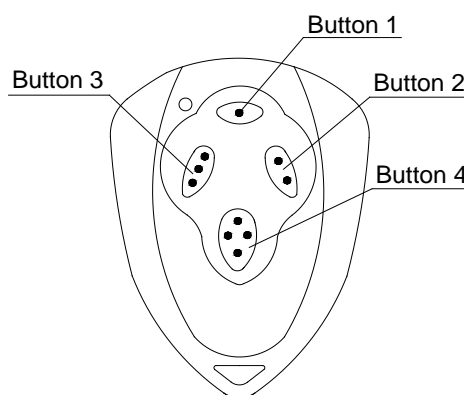

Fig.9
- **To add extra remote controls (Learning):** Press the button 'LEARN BUTTON' (see Fig.9) on the control board, the LED turns on, then press the Button 4 of remote control button, the LED turns off,